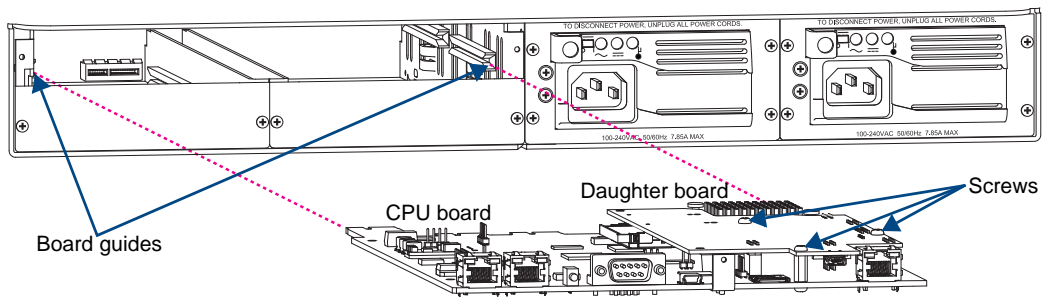

FIG. 117 Remove 3 screws indicated
- Remove the three screws indicated on top of the CPU / daughter board assembly (FIG. 117) and remove the daughter board.
12. Slowly slide the CPU board into the empty slot, being careful to align the edges in the board guides along the insides (the board guides are shown in FIG. 117).